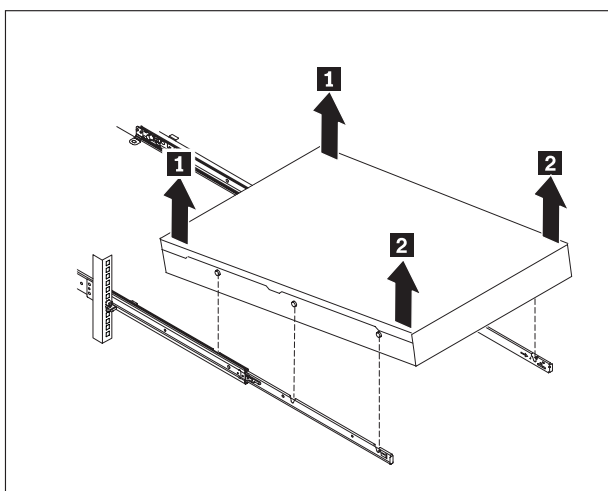

Figure 30. Lifting the appliance off the slide rails
2. Lift the appliance off of the slide rails, as shown in Figure 30.